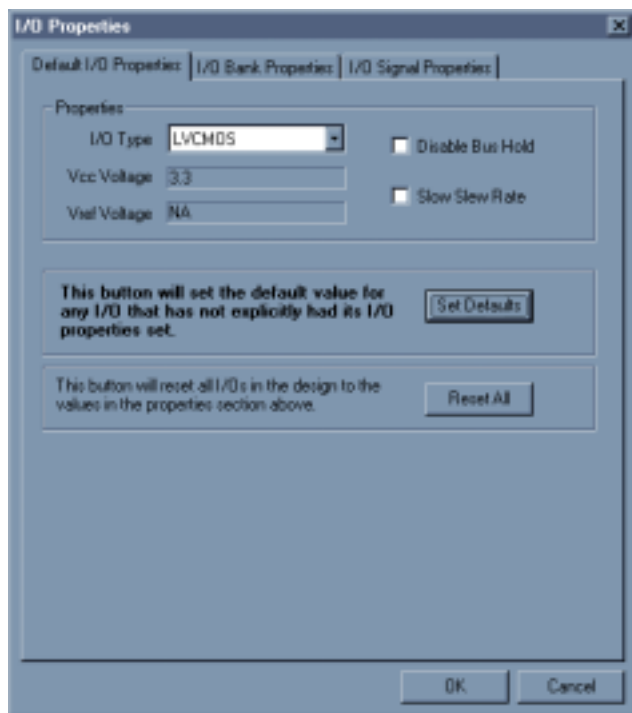

Figure 11. Default I/O Properties Dialog Box
1. Launch the I/O Properties dialog box and select the "Default I/O Properties" tab (Figure 11).